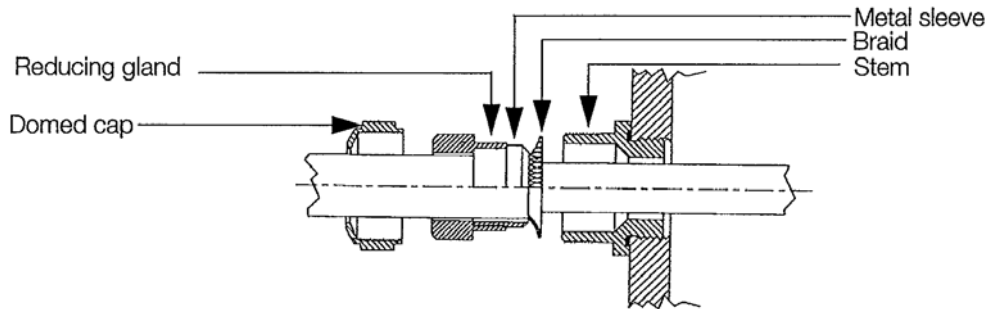

Figure 2-2. Metal Cord Grip
6. Lower the reducing gland assembly so that the end of the metal sleeve is at the edge of the insulation and fold the braid over the metal sleeve. See Figure 2-2. Trim the braid if necessary.
4. Take the metal sleeve (shown in Figure 2-2), and insert it into the reducing gland taken from the parts kit.
7. Lower the reducing gland assembly so that the end of the metal sleeve is at the edge of the insulation and fold the braid back over the sleeve (see Figure 2-2). Trim if necessary.
4. Lower the reducing gland assembly so that the end of the metal sleeve is at the edge of the insulation and fold the braid back over the sleeve (see Figure 2-2). Trim if necessary.
2. Remove domed cap and reducing gland from cord grip and place them on the cable (see Figure 2-2).